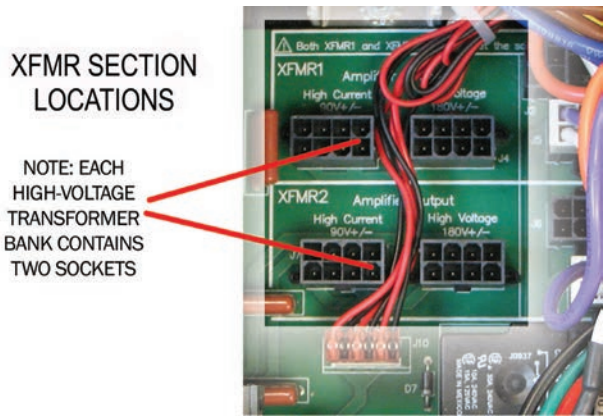

Figure 5.9 – Location of Amplifier High-Voltage Transformer Sockets
1. Locate the two XFMR sections (left of Line Voltage sections) (see **Figure 5.9**).